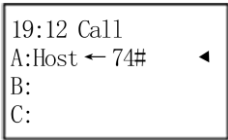
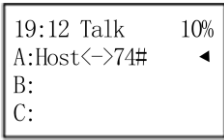

Fig. 22-1 An extension is calling the host
Fig. 22-2 Communication interface
In standby mode, the caller at extension side can hear the ring back tone after off-hook, the LCD displays the extension number and the "An Extension Calls the Host" state, as shown in Fig. 22-1, in which the "Host<->" section flashes, the host horn sends "beep" sound, and after pressing "Mute", the call sound can be eliminated. Press the "Get Through" key to get through the extension, and the LCD will convert to "Host<-04#" from "Host<->04#" and enter the call state, as shown in Figure 22-2.
- a. After the host has successfully called an extension, it is able to communicate by the called extension after off-hook. As shown in Fig. 22-2, the LCD indicates that the host and the address extension have entered the call state, and the "Communication" indicator (red) is lit. 20% in the first column on the LCD indicates that the current recording module has occupied 20% of the nominal memory.